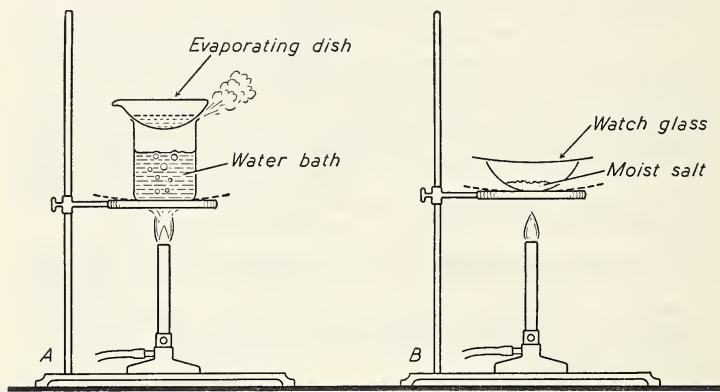

Fig. 45. Evaporating a solution. *A*, first stage, using a water bath. *B*, second stage, evaporating to dryness.
to evaporate the solution (Fig. 45*A*). Evaporate until nearly dry, and then remove the evaporating dish. Wipe the water from the outside of the dish, and then place it on a wire gauze supported on a ring stand.
3. Again cover the dish with the watch-glass, and heat it carefully with a small Bunsen flame (Fig. 45*B*) until thoroughly dry. Be sure that all traces of moisture are driven not only from the evaporating dish, but from the under surface of the cover as well. Allow the dish to cool to room temperature, and then weigh the dish, contents, and cover together, and record the weight. Record your data as follows: